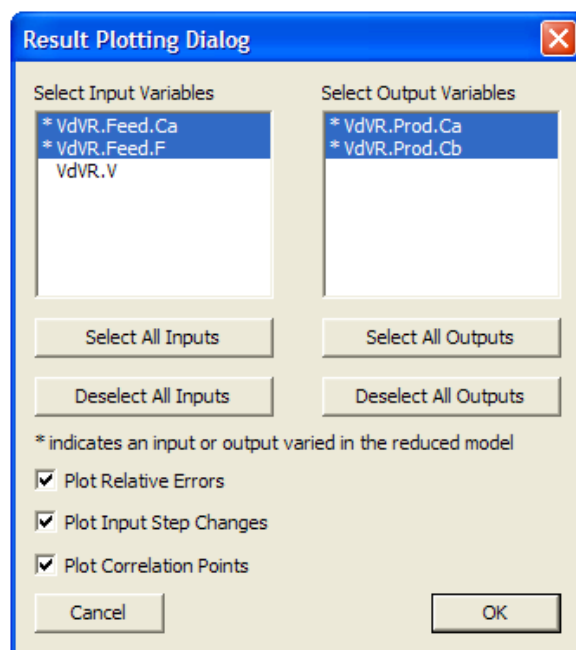
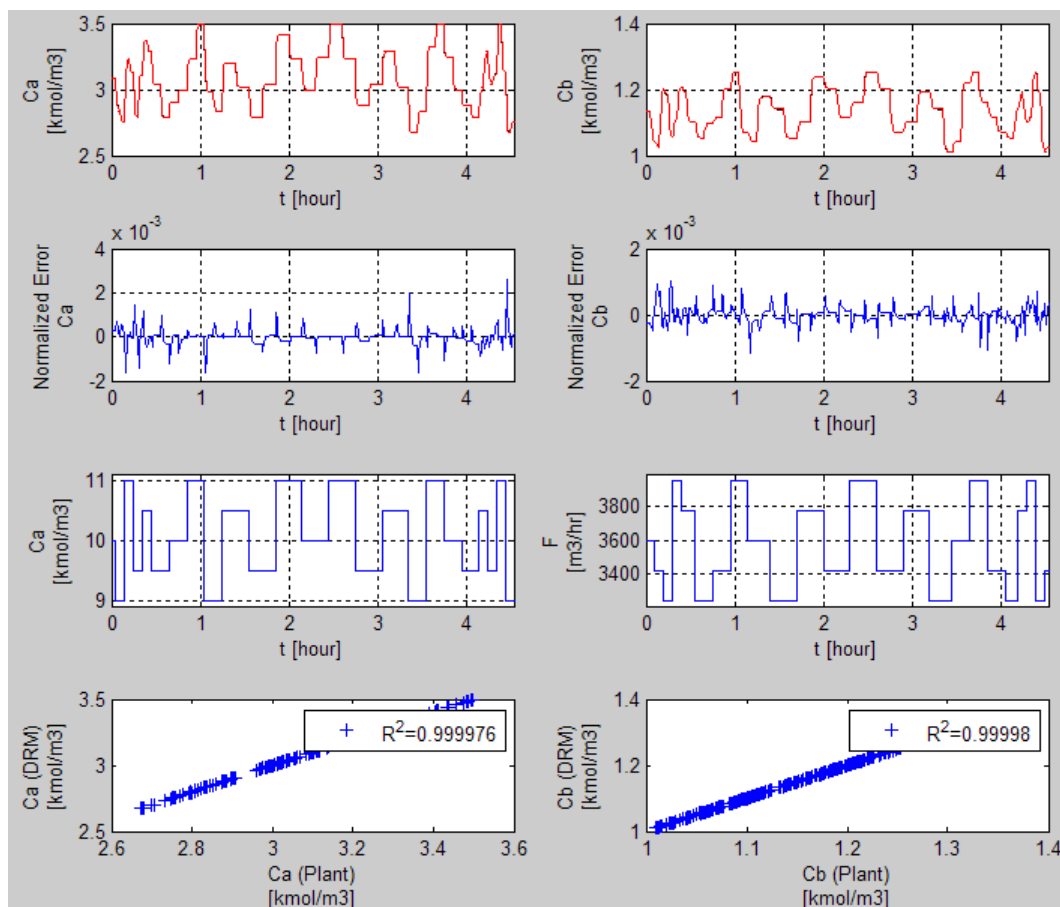
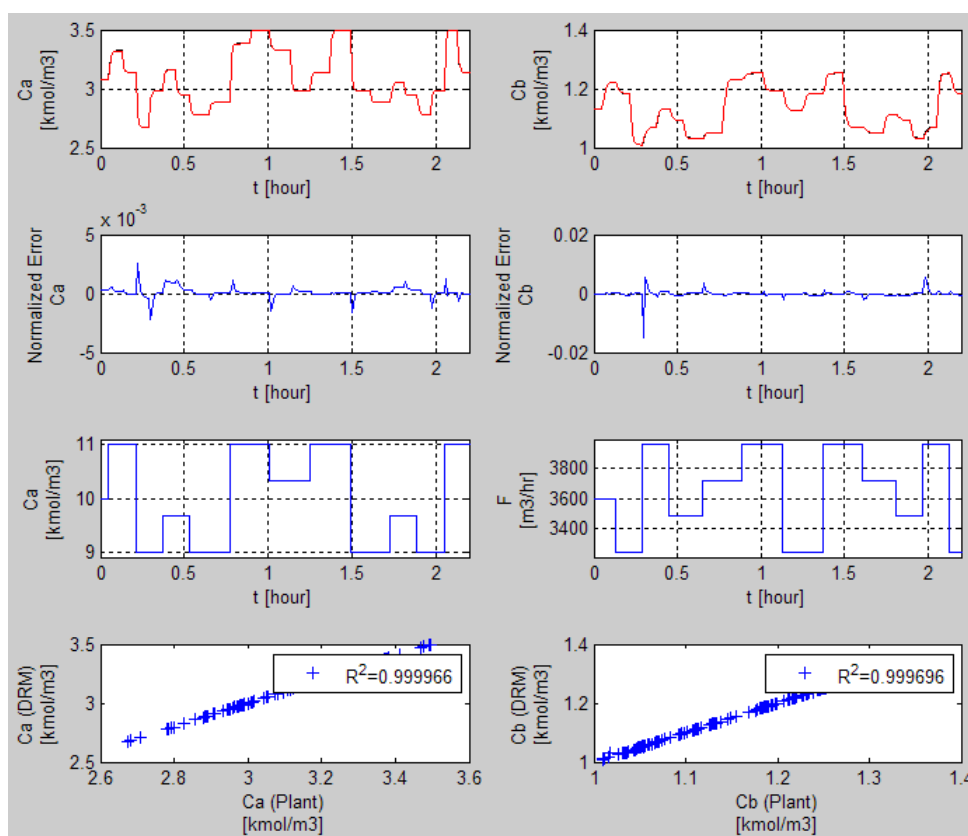

Figure 15: Result Plotting Dialog Window
Figure 16: Plots of Input and Output Data as Functions of Time for Training Data
Figure 17: Plots of Input and Output Data as Functions of Time for Validation Data
21. With both ACM and D-RM predictions for the response of the training sequence available, issue the **Post-Process → Plot/Compare Training Responses...** command or click  on the toolbar to visualize the results. The “Result Plotting Dialog” window as shown in Figure 15 displays.
The Result Plotting Dialog window lists the input and output variables for the user to plot by MATLAB through the MATLAB engine. Note: The variable names listed with an asterisk (“\*”) indicate the input or output variables that are varied (not fixed) in the reduced model. Click the items in the list boxes to select and deselect the variables. The four buttons below the two list boxes enable the user to select or deselect all of the input or output variables. Here the user can select the first two input variables and the first two output variables as shown in Figure 15. The D-RM Builder always plots the responses predicted by the generated D-RM and those by the ACM model in the first row of the figures. The user can also plot the relative errors, input step changes, and correlation points by selecting the corresponding check boxes in the lower part of the window. Accept the defaults with all of the check boxes selected and then click “OK”. A MATLAB command window displays, immediately followed by a MATLAB figure window as shown in Figure 16, and then by a message box window confirming the successful completion of the plotting command.
Maximize the plot window to see the plots of the input and output variables clearly. The plots in the top row are the curves of the output variables versus time. If the user looks carefully, there are two curves plotted for each output variable. The one in black is the high-fidelity model (ACM model) simulation result and the other in red is the D-RM prediction. The red curve seems to sit on the top of the black one unless the user zooms in to a selected region. The second row contains the normalized error plots showing the relative errors of the D-RM predictions compared to the ACM simulation results. Notice that the relative errors are very small in this case, indicating that the generated D-RM fits the ACM model results very well. The third row contains the plots of step changes of individual input variables, one input variable on each plot. If the user looks carefully, the step changes of two inputs do not happen at the same time. Actually the two inputs take turns to make step changes, one at a time. The bottom row plots the points of the D-RM model predictions versus the ACM model predictions (plant data). If a D-RM model prediction is exactly the same as the ACM model prediction, the point sits exactly on the 45 degree line if the scales of the two axes are identical. The legends of the bottom row figures also show the  $R^2$  values of the correlation. As seen in Figure 16, the  $R^2$  (coefficient of determination) values for the two outputs are very close to 1, indicating that the D-RM is quite accurate. Note:  $R^2$  is always less than 1. Generally, the higher the  $R^2$  value, the more accurate the generated D-RM. Close the plot and MATLAB
command windows after examining the results for the training sequence by clicking “OK” in the message box window. If needed, issue the **Post-Process → Plot/Compare Training Responses...** command again with only one output variable selected at a time to visualize the plot in a single column. Likewise, clear some of the check boxes in the Result Plotting Dialog window shown in Figure 15 to remove some of the rows of figures so the user can see the larger figures of interest.
23. Issue the **Post-Process → Plot/Compare Validation Responses** command or click  on the toolbar. The “Result Plotting Dialog” window as shown in Figure 15 displays. Select the first two input variables and the first two output variables and click “OK”. A MATLAB command window displays immediately followed by the plot window as shown in Figure 17 and then a confirmation message window.
Adjust the size of the plot window before clicking “OK” on the message window, which closes both the plot and the message windows. The first row of the plot window contains the two output variables (concentrations of Species A and B) as functions of time. The black curves show the measured values which are calculated based on the ACM predictions and the randomly imposed measurement noise. The red curves are the filtered mean output values. The blue and green dotted curves show the error ranges ( $\pm$  the standard deviation from the calculated covariance matrix). The relative errors and correlation plots are similar to those shown in Figure 17 except that both the D-RM and UKF results are plotted. Since the generated D-RM is very accurate, the standard deviations of the output variables are dominated by the noise of the measurements, which is 2% of the initial values.